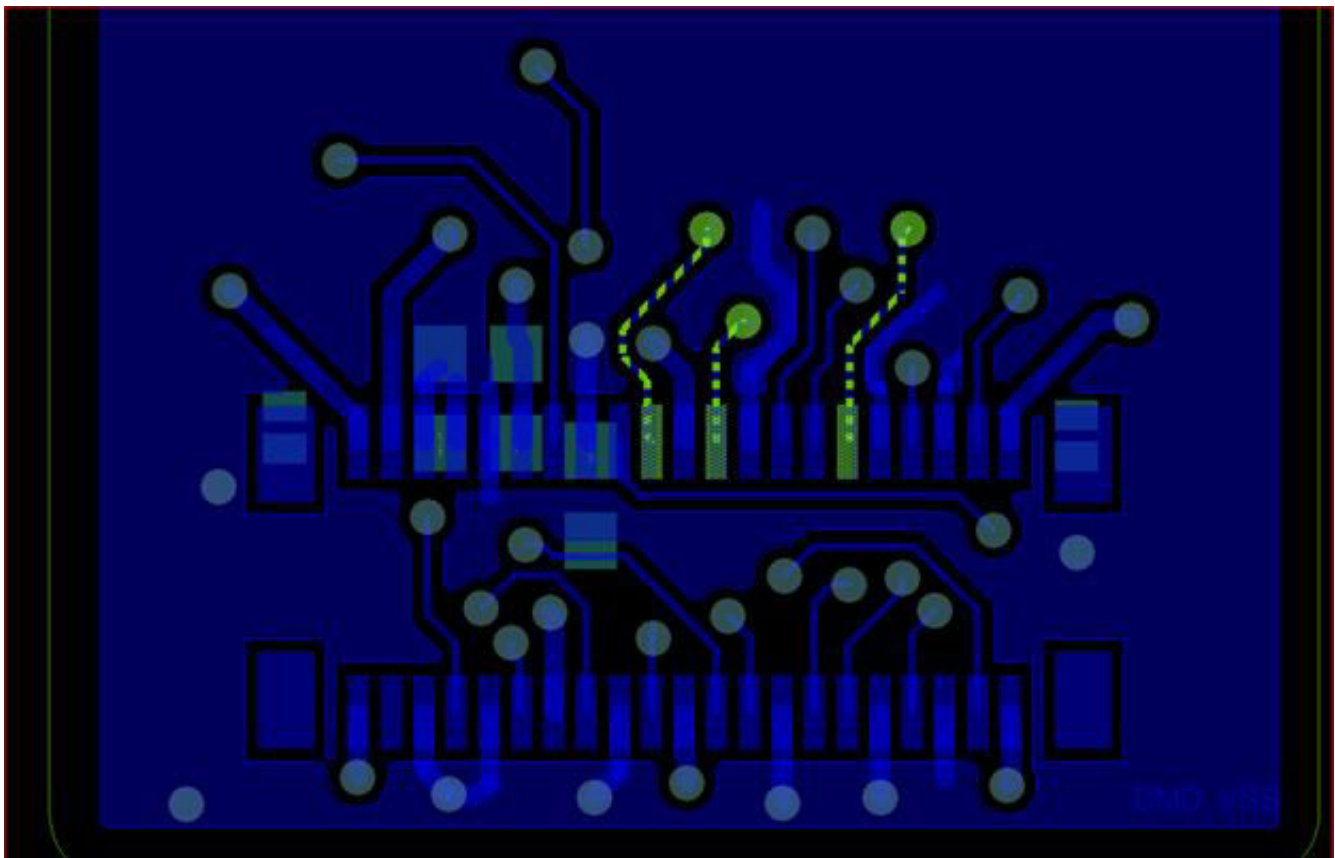
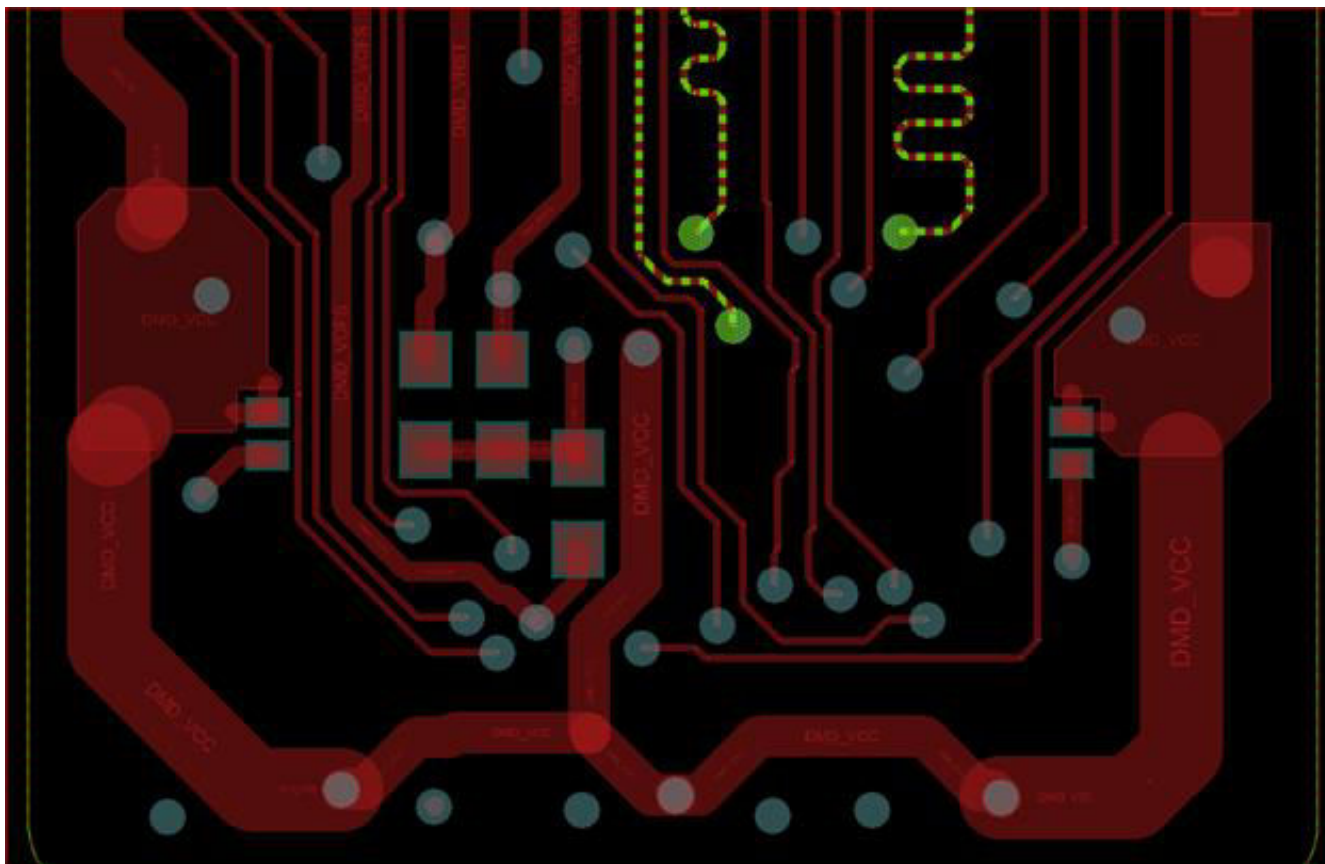

图 10-1. DMD Flex Cable—Top Layer
图 10-2. DMD Flex Cable—Bottom Layer
- 图 10-1 and 图 10-2 show the top and bottom layer of the DMD flex cable connections.